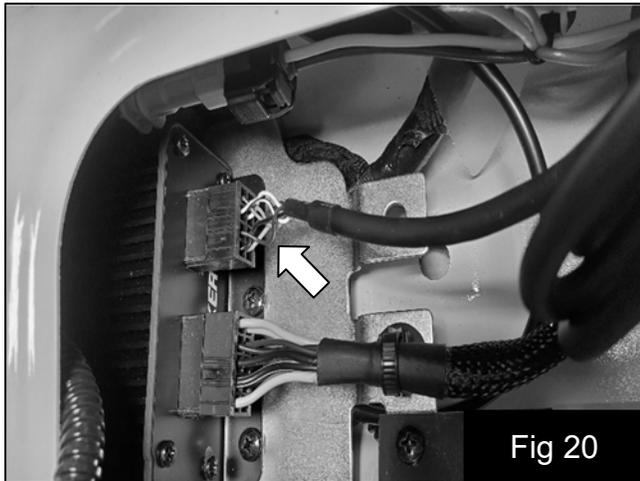

Fig 20
28. Connect the controller to the amplifier. Fig. 20